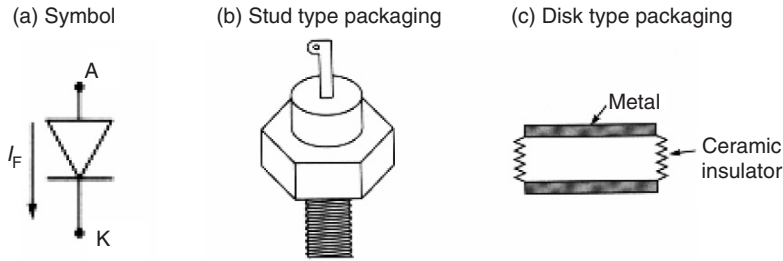

FIGURE 2.1 Power diode: (a) symbol; (b) and (c) types of packaging.
Among all the static switching devices used in power electronics (PE), the power diode is perhaps the simplest. Its circuit symbol is shown in Fig. 2.1. It is a two terminal device, and terminal A is known as the anode whereas terminal K is known as the cathode. If terminal A experiences a higher potential compared to terminal K, the device is said to be forward biased and a current called forward current (I_F) will flow through the device in the direction as shown. This causes a small voltage drop across the device ($<1V$), which in ideal condition is usually ignored. On the contrary, when a diode is reverse biased, it does not conduct and a practical diode do experience a small current flowing in the reverse direction called the leakage current. Both the forward voltage drop and the leakage current are ignored in an ideal diode. Usually in PE applications a diode is considered to be an ideal static switch.